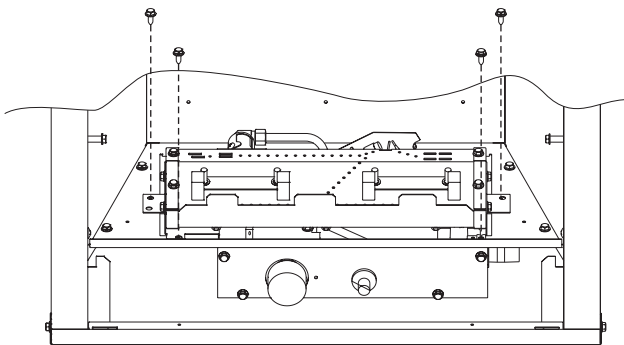

Figure 26
5. Remove burner assembly (four 10 x 1/2" screws). See Figure 26.